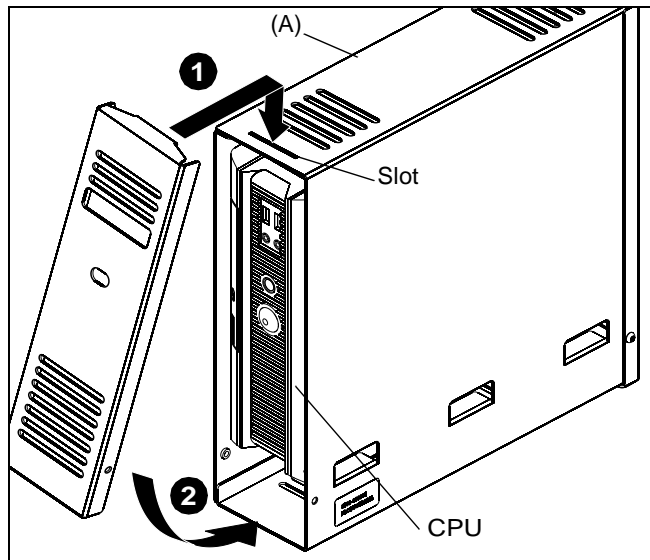

Figure 9
1. Add the door to CMA-170 by placing the top tab into the slot on top of CMA-170. (See Figure 9)
2. Swing the door bottom into place. (See Figure 9)